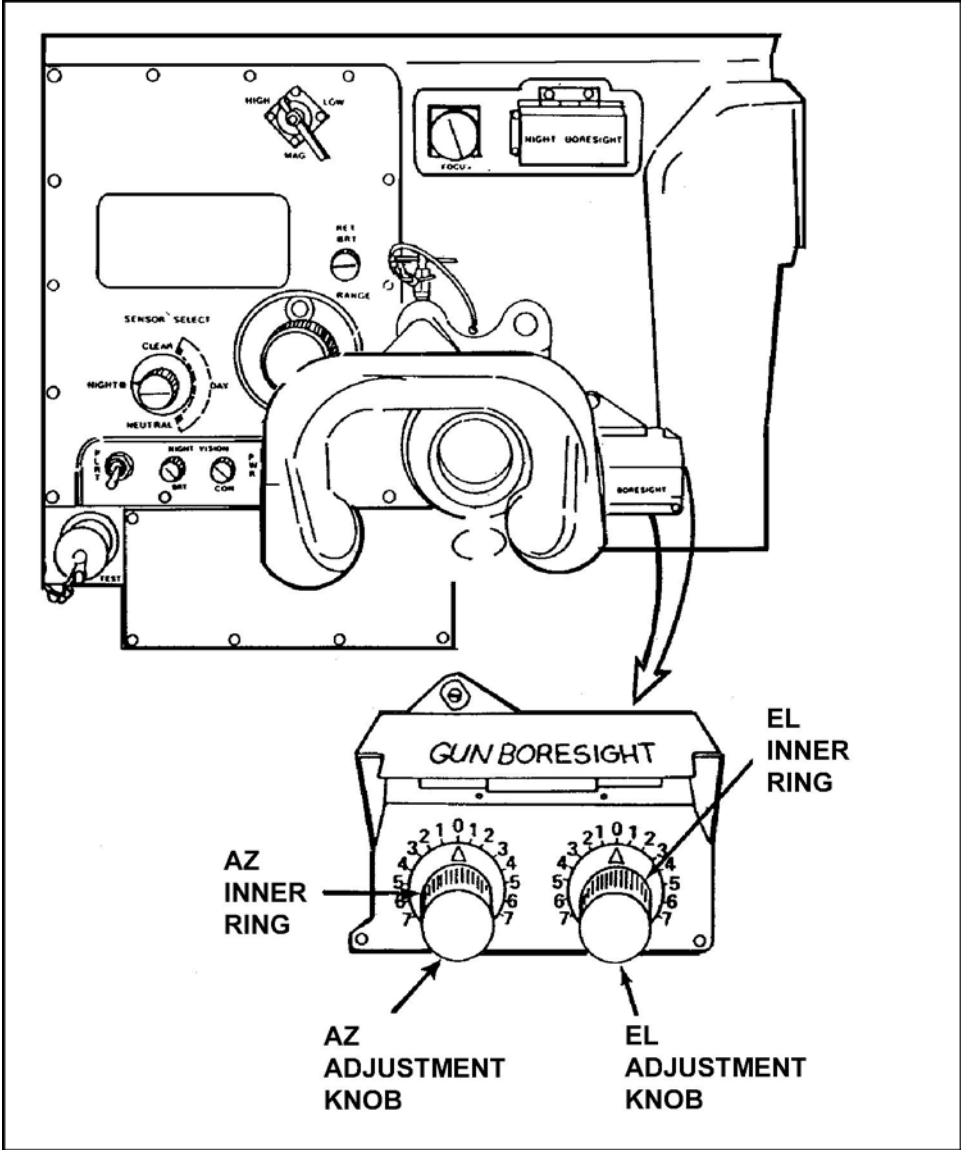

Figure 6. Gun boresight cover.
- (1) Lift the gun boresight cover on the ISU (Figure 6).